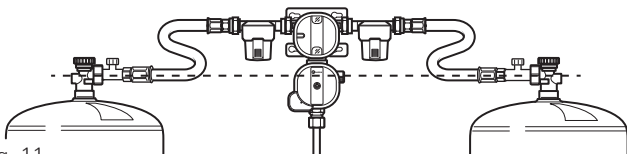

Fig. 11
- ▶ During a cylinder change, ensure that the high-pressure hoses from the inlet connection of the gas pressure regulator is always at a constant gradient to the gas cylinders (Fig. 11).